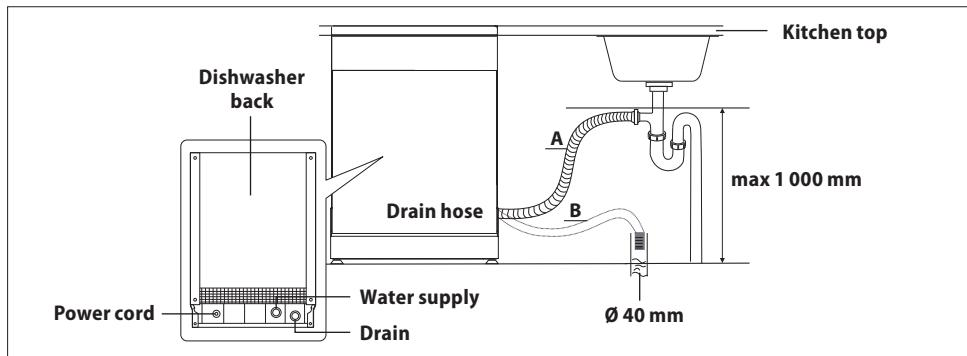

Fig. 18
- Connect the drain hose according to Fig. 18.
- Connect the inlet hose to the tap with 3/4" thread (Fig. 18). Make sure that the inlet hose is not bent, crushed or entangled.
Connect the drain hose to the waste pipe with a minimum diameter: 40 mm (Fig. 18). Make sure the drain hose is not bent or squeezed to prevent slowing down or stopping of the water flow.
The height of the waste pipe must be less than 1,000 mm (Fig. 18) and the drain hose should not be submerged in water. Secure the drain hose properly to prevent unwanted loosing from the waste pipe.